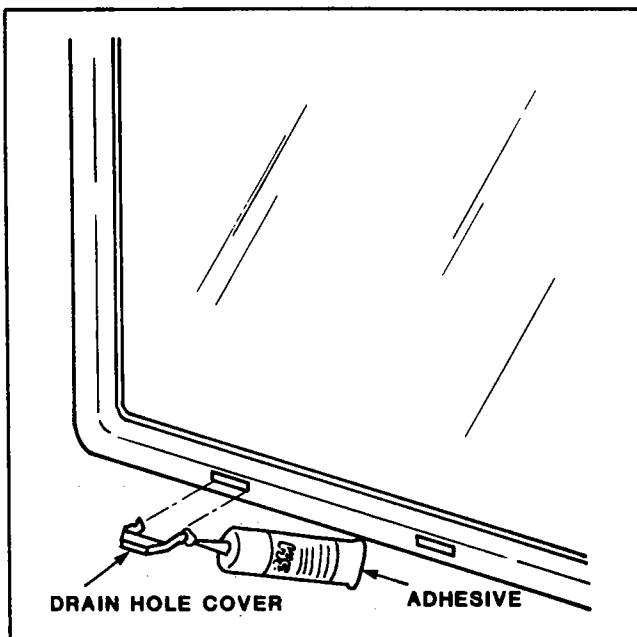

Figure 18. Drain Hole Cover Installation
10. Apply a small amount of 3M adhesive (3M Automotive P/N 08001 5 oz. tube) to the tips of the drain hole covers (part number 21989-007) and insert them into the drain holes at the bottom of the windows, including the rear window (figure 18). Make sure the opening is down.